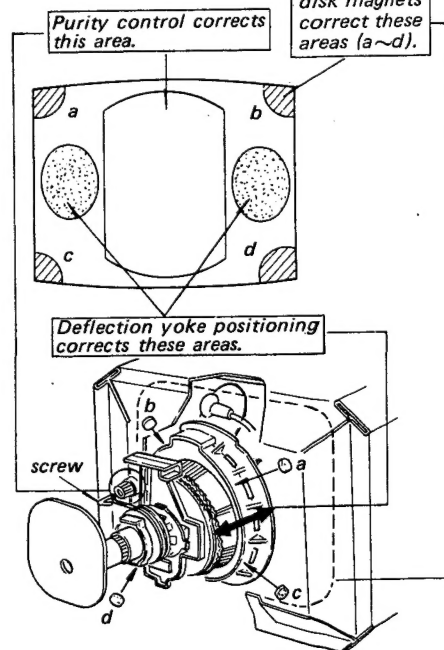

Fig. 3-4.
- ... Connect lead ⑥ on the C board.
- Disconnect leads ④ and ⑤.
- ... Connect lead ⑤ on the C board.
- Disconnect leads ④ and ⑥.
10. Check if mislanding appears at corners a~d as shown in Fig. 3-4. If mislanding is observed, correct it as shown in Fig. 3-4.